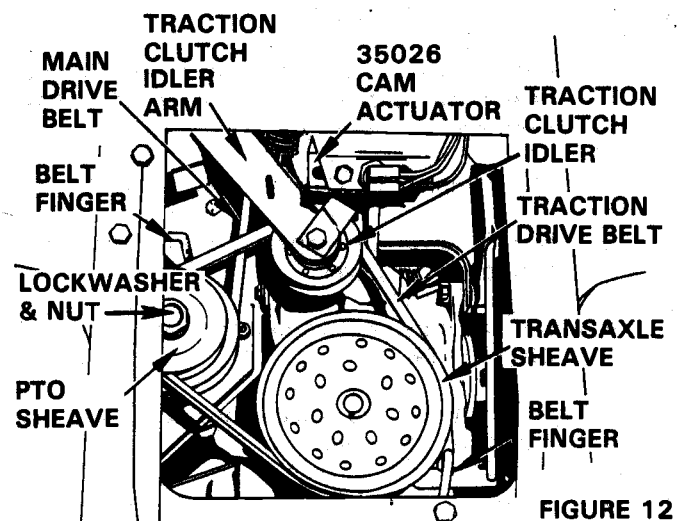

FIGURE 12
10. Loosen fasteners holding two belt fingers around Traction Drive Belt to frame, and rotate fingers away from belt. See Figure 12.
11. Depress Clutch Pedal with left foot and unwrap Traction Drive Belt from transaxle and upper groove of top PTO Sheave. Figure 12.
12. Release clutch, disconnect traction clutch spring from Traction Clutch Idler Arm. (Use vise grips). See Figure 12.
13. Rotate Attachment Idler until hair pin at top of idler assembly pivot pin can be removed rearward. See Figure 12.
14. Remove PTO pivot pin, hair pin and washer. Figure 12.
17. With a $\frac{9}{16}$ " open end wrench, hold the jackshaft via the milled flats under the PTO Sheave. Remove large nut and internal tooth lockwasher on top of jackshaft. Figure 12.
9. Wrap main belt around lower (larger) groove of top PTO Sheave. See Figure 12.
10. Align top PTO Sheave bore above jackshaft spindle bore and slide jackshaft upward and through top PTO Sheave. Be sure spacer washer is between upper spindle bearing and top PTO Sheave. See Figure 12.
14. Grasp Traction Clutch Idler spring with vise grips and connect hook to Traction Clutch Idler Arm. See Figure 12.
15. Depress traction clutch pedal and wrap Traction Drive Belt around upper groove on PTO Sheave and Transaxle Sheave. DO NOT PRY. See Figure 12.
REPLACEMENT OF TRACTION DRIVE BELT - FIGURE 12